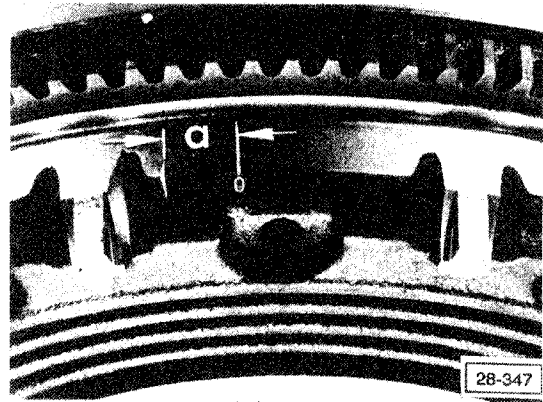

Fig. 6-9. Location on replacement flywheel to make new ignition timing mark. Dimension **a** is arc length from Top Dead Center (0) mark.
Replacement flywheels may not have an ignition timing mark. Make a timing mark 12 mm (0.47 in.) arc length to the left of the Top Dead Center (0) mark, as shown in Fig. 6-9.